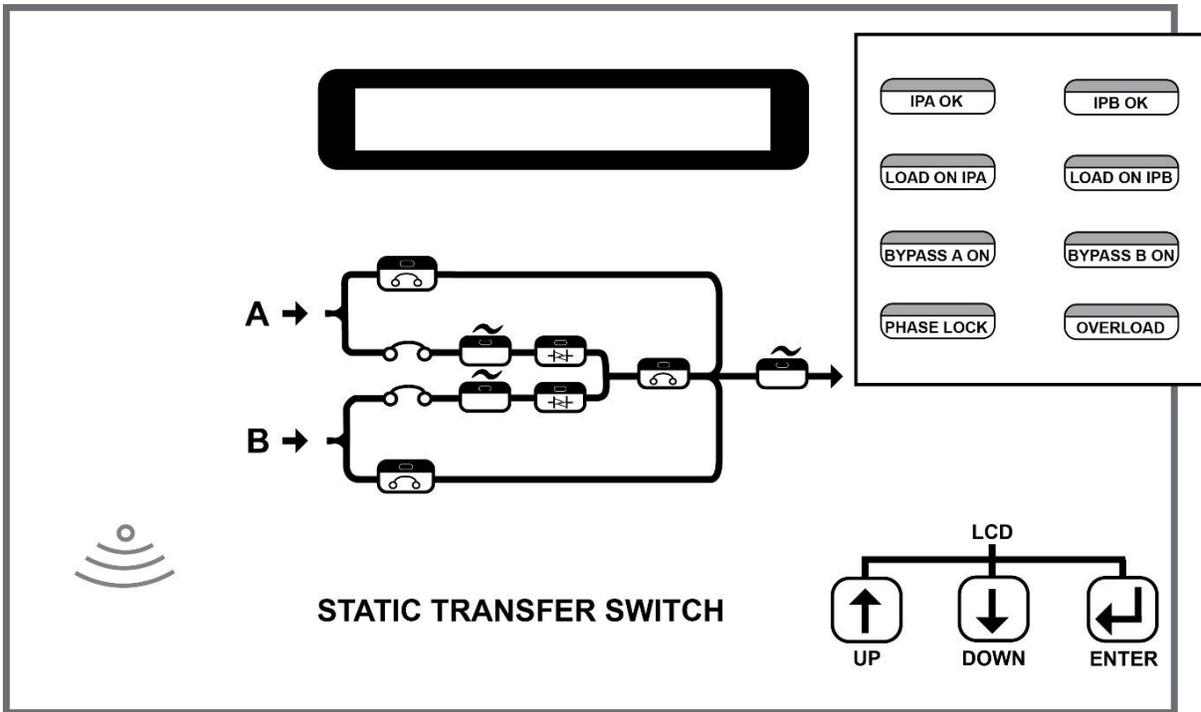

Figure 21: Location of Status/Warning LEDs
The eight (8) Status/Warning LEDs are located on the top-right side of the control panel (**Figure 21**).